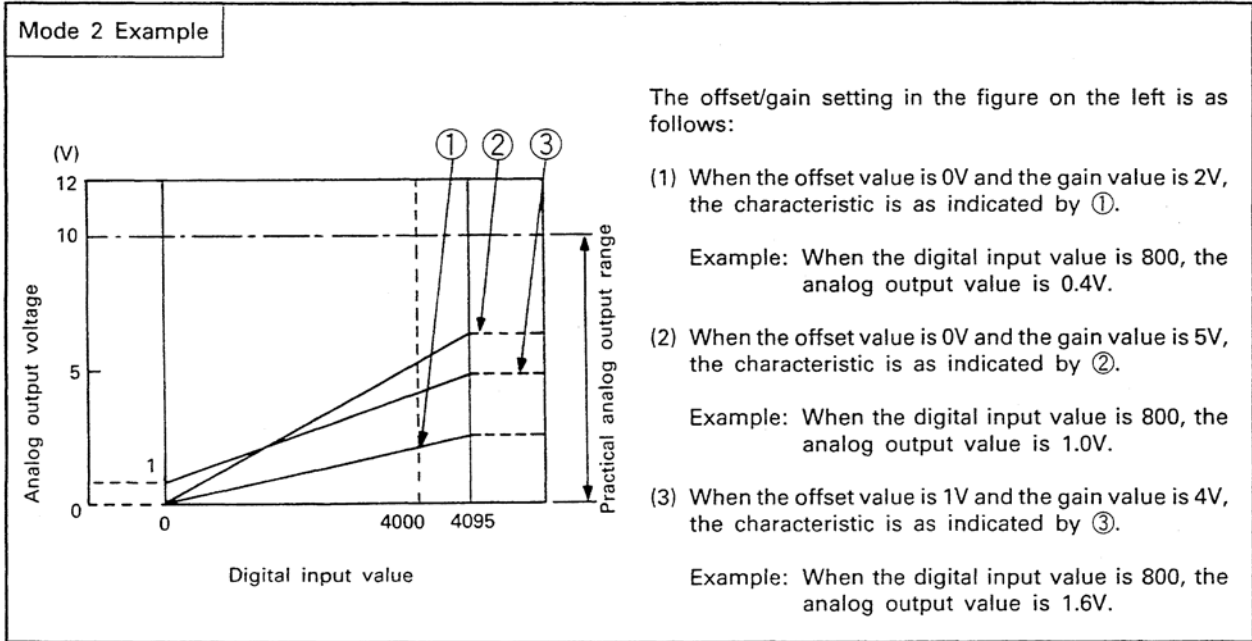
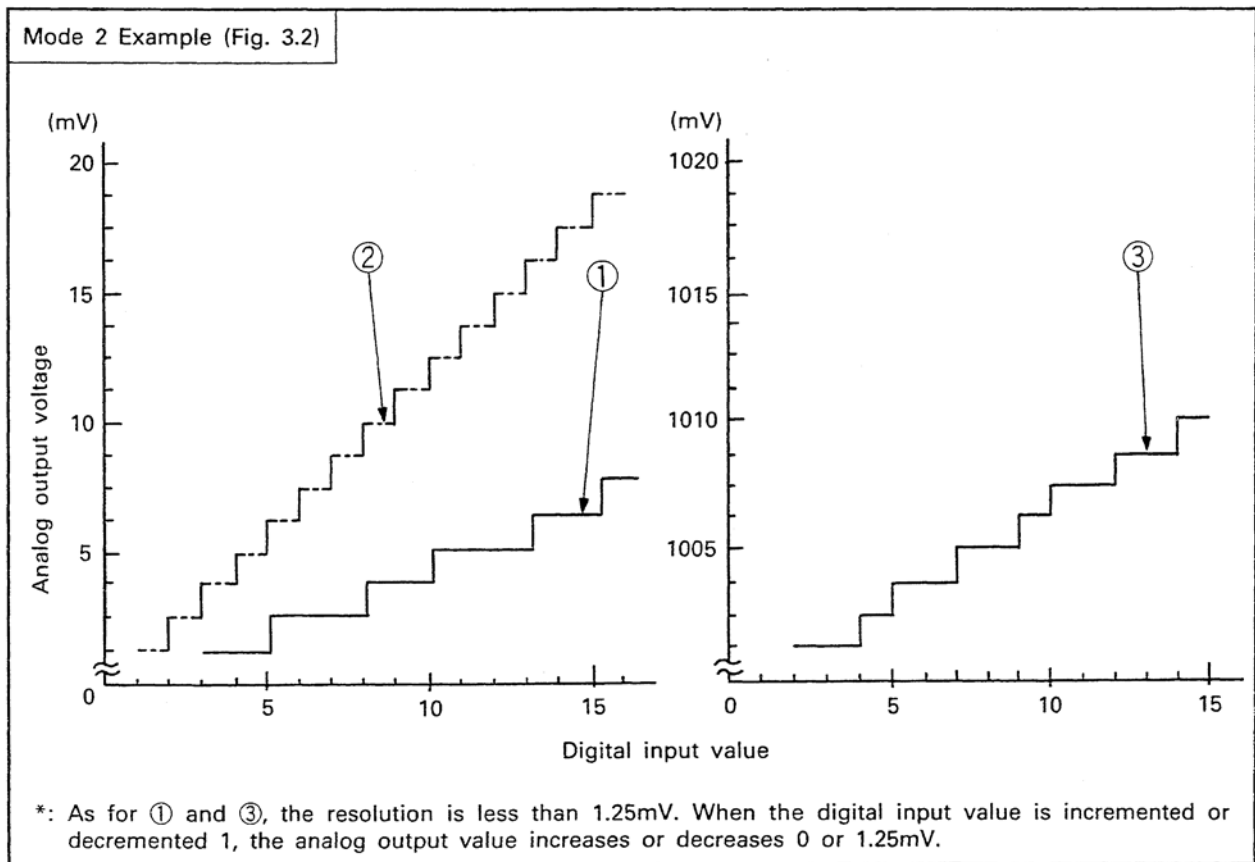

Fig. 3.2 Voltage Output Characteristic
Fig. 3.5 Digital Input Value and Voltage Output
(1) The maximum resolution and overall accuracy are within the range of performance specifications when the working analog output range is 0 to +10V. Avoid use outside the above indicated range (dotted line on the voltage output characteristic graph in Fig. 3.2 and 3.3).
Fig. 3.5 to 3.7 show the relation between the digital input value and the analog output value when the offset/gain setting is changed. The offset value and gain value are values in the voltage and current output characteristic graphs in Fig. 3.2 to 3.4.